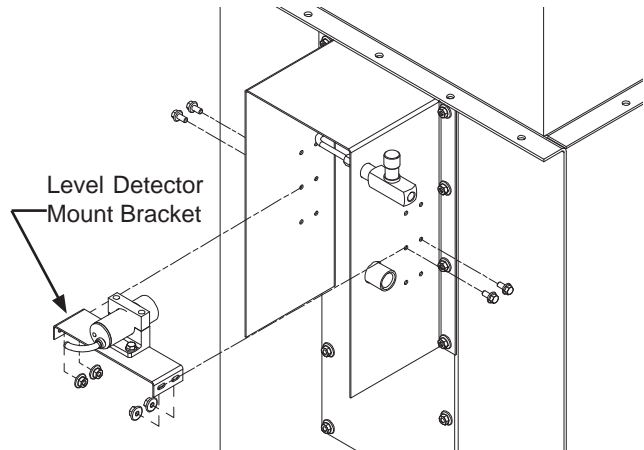

Figure 32. Level Detector
Level Detector Vertical Position There are three (3) vertical positions the level detector can be adjusted to (see Figure 32). Remove mounting hardware and adjust to the preferred level. Maintain 1/16" clearance between the sensor and the window. Tighten hardware.